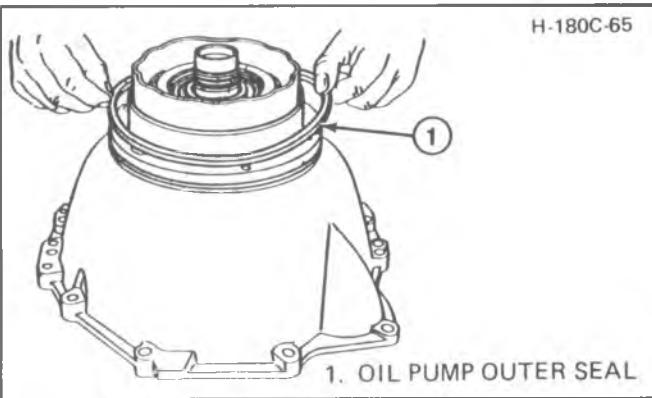

Figure 50 Installing Oil Pump Outer Seal
**Assemble (Figures 50 and 51)**